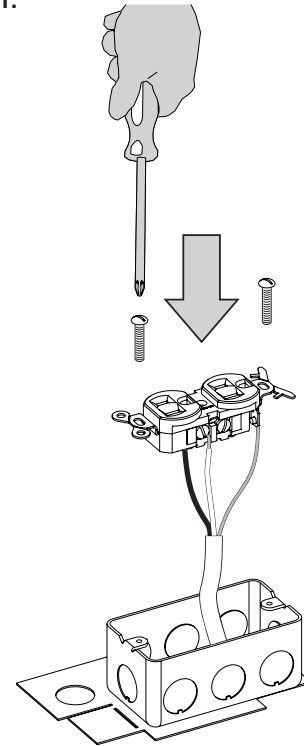

Figure 31
5. Attach receptacle to junction box with screws provided. **See Figure 31.**